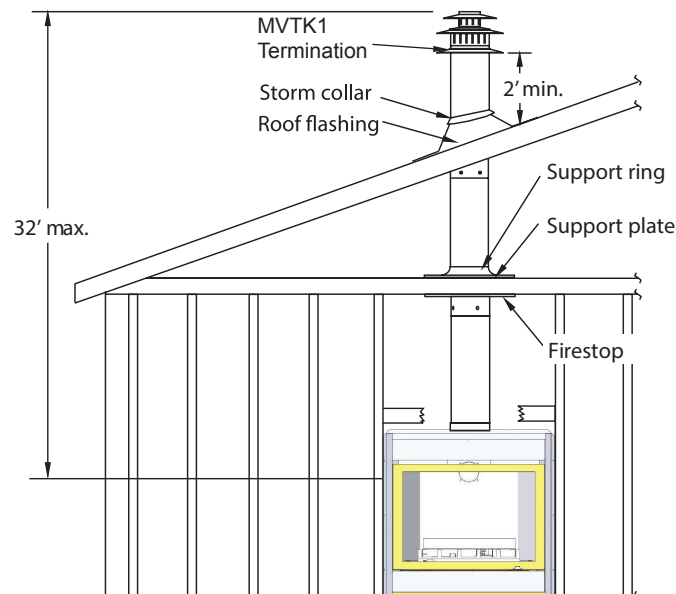

Figure 11. Top vent, Roof mounted termination with no offset in vent run.
- The Vertical termination must be a minimum 2' higher than where the termination exits the roofing materials, (asphalt shingles, cedar shakes, etc). This distance should be measured from the high side of the roof slope where the flue flashing intersects the roofing materials. (see Figures 11 to 11c).